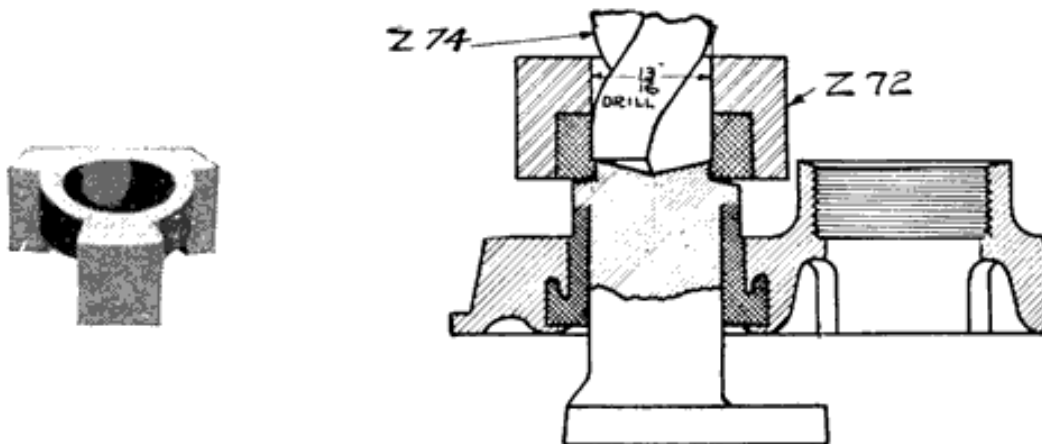

Fig. 279. Willard Drill Jig Z-72 and How it Is Used
1. Place Willard drill jig Z-72 (Fig. 279) over the connector, and with a 13/16 inch drill, bore down far enough to release the connector from the post (Fig. 279).